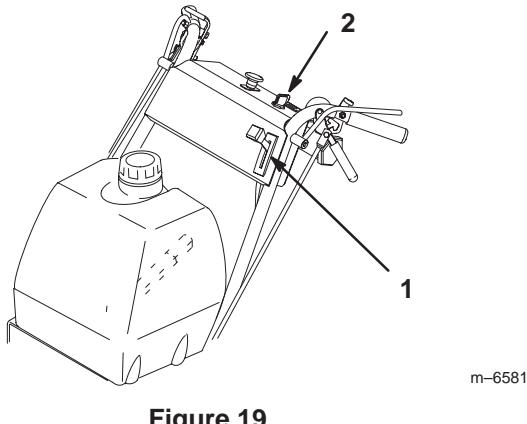

Figure 19
1. Move the throttle lever to the Slow position (Fig. 19).
4. Turn the ignition key to the Off position (Fig. 19).